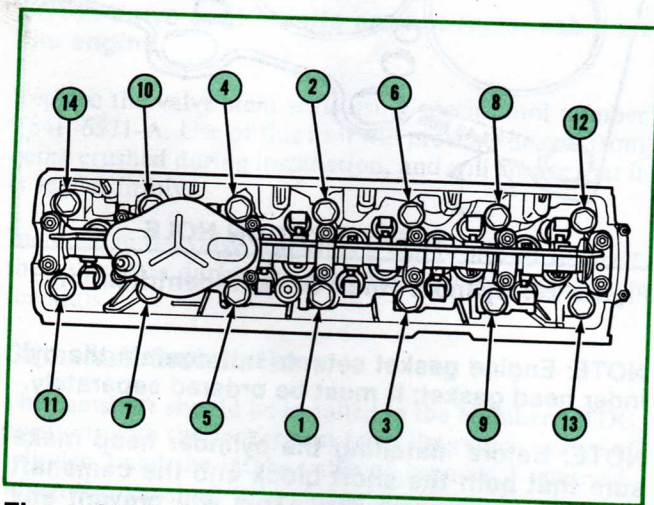

Figure 30. Cylinder Head Tightening Sequence
1. With a torque wrench, tighten cylinder head bolts in the specified order (Fig. 30) from inside to outside.